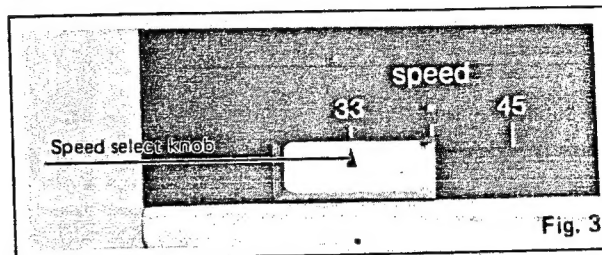

Fig. 3
3. Set the speed select knob to the desired record speed. (See Fig. 3.)